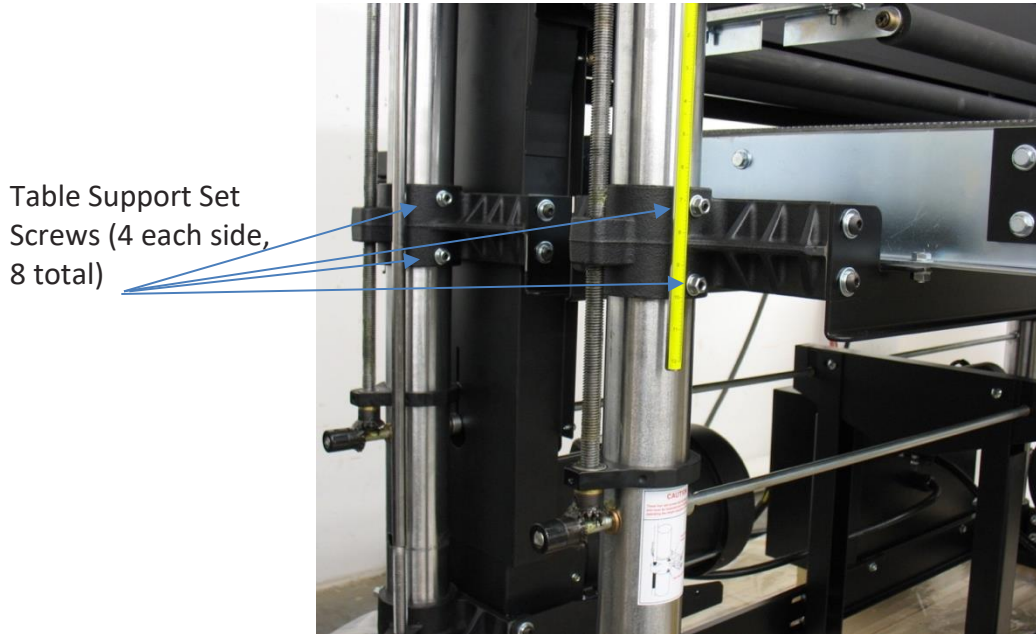

Figure 5: Table Support Set Screws
4. Loosen the four nuts then the four set screws locking the table support casting, Fig. 5. Finger tighten these same set screws. Hold the set screw with a Hex wrench and tighten the nut. Note, these set screws are brass tipped and are designed to lightly rub on the column.